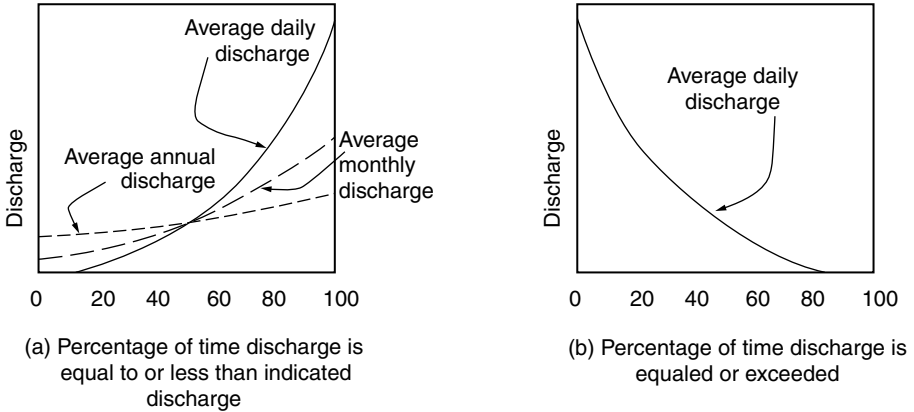

FIGURE D-4 Discharge–duration curve.
**Discharge duration curve** A curve that shows the percentage of time streamflow is less than or equal to various discharges during a certain period or the percentage of time the discharges are equaled or exceeded. The shape of the curve varies with the time unit selected. In addition, the curve may show the expected minimum and maximum discharges. *See* Figure D-4.